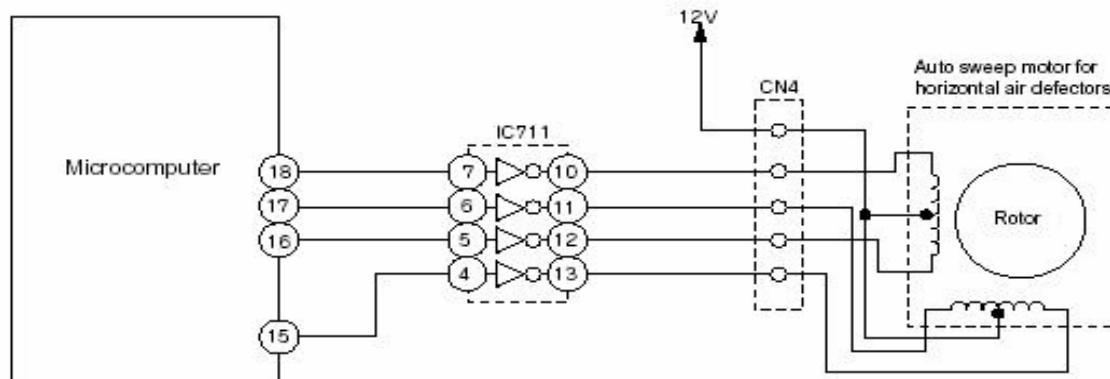

Fig.4-1
Fig. 4-1 shows the Auto sweep motor drive circuit; the signals shown in Fig.4-2 are output from pin (15) ~ (18) of microcomputer.